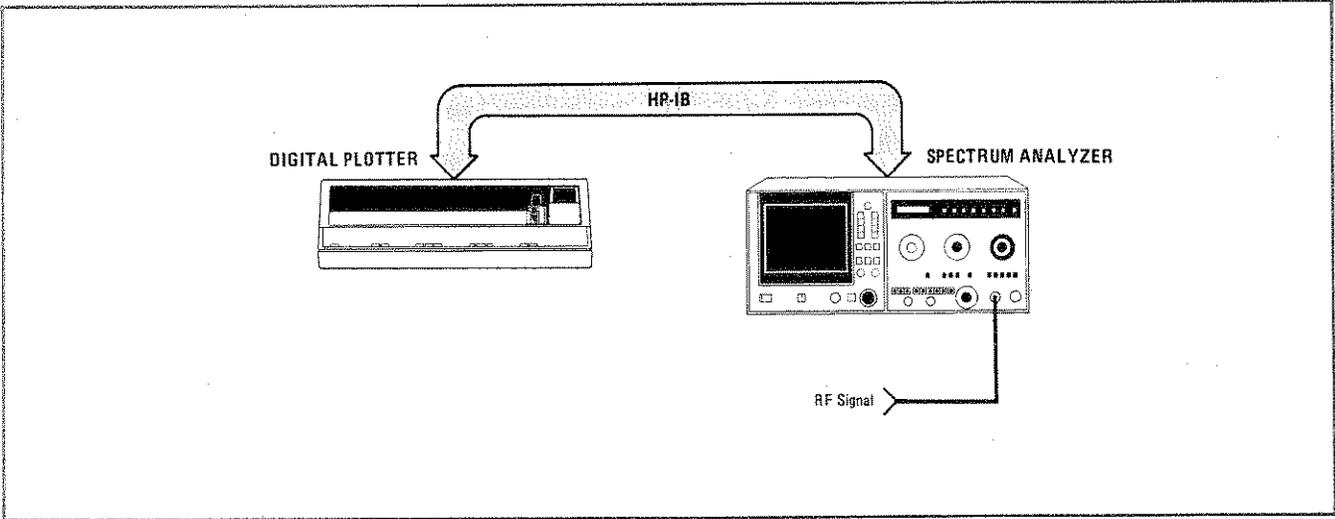

Figure 25. Digital Plotter Setup
1. Attach HP-IB cable from the HP-IB connector on the rear panel of the HP 8569A to the plotter rear panel HP-IB Connector as shown in Figure 25.